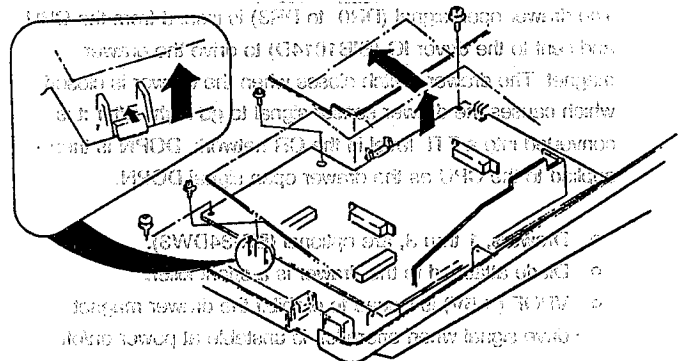

Fig. 14-2
3) Removing the main PWB (Fig. 14-2)